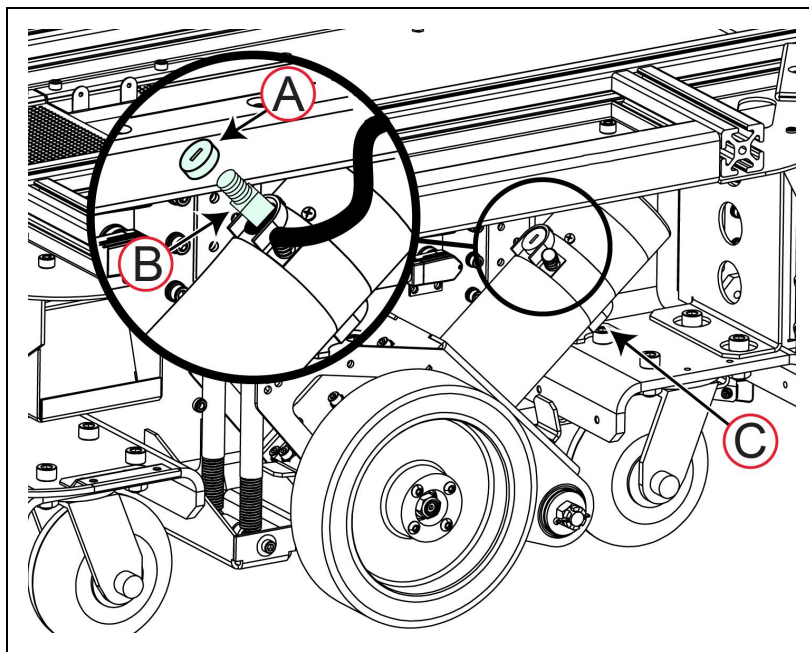

Figure 8-17 Replace the Motor Brushes
4. Use an 0.25 inch (7 mm) flat-blade offset screwdriver to remove the brush cover (A).
5. Insert a new replacement brush as shown by (B) in Figure 8-17.
7. Repeat Step 3 through Step 6 for the underside brush (C).